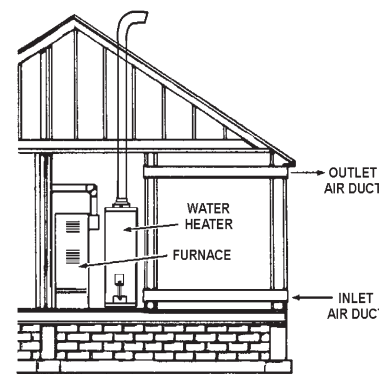

FIGURE 8C.
3. When communicating with the outdoors through horizontal ducts, each opening should have a minimum free area of 1 square inch per 2,000 Btu per hour (11 cm²/kW) of total input rating of all equipment in the enclosure, see Figure 8C.
4. When ducts are used, they should be of the same cross-sectional area as the free area of the openings to which they connect. The minimum short side dimension of rectangular air ducts should not be less than 3 inches (7.6 cm), see Figure 8C.